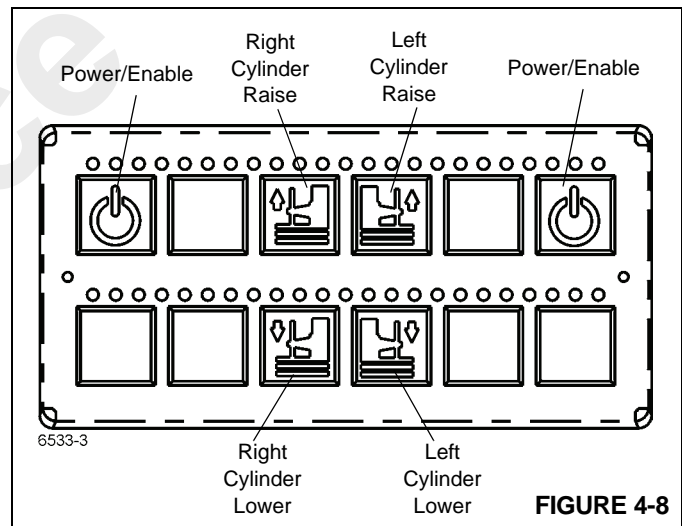

FIGURE 4-8
3. Using the counterweight switch panel (Figure 4-8), lower the counterweight cylinders by pushing on a power/enable button while pushing the appropriate cylinder lower button. Pin the cylinders to the counterweight